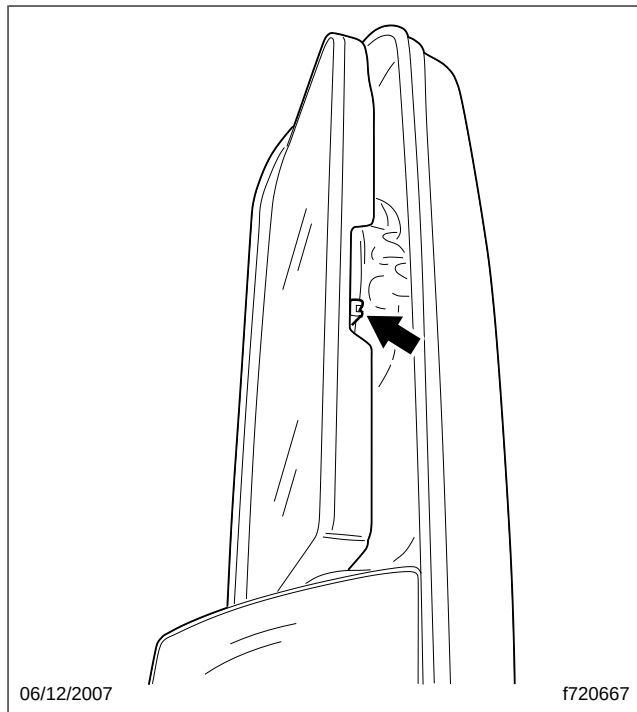

Fig. 1, Flat Glass Carrier Locking Tab
3. To unlock the flat glass carrier, support the glass carrier while pushing up the retainer ring locking tab, located behind the right-hand edge of the glass carrier; see **Fig. 1**. Use care in removing the glass carrier, as the heater wires are still attached.
3. With the actuator rotated as far left as possible, carefully align the flat glass carrier on the actuator. Apply light pressure on the glass to hold it in place, and pull down the retainer ring locking tab. See **Fig. 1**. Make sure that the glass carrier is securely locked in place.